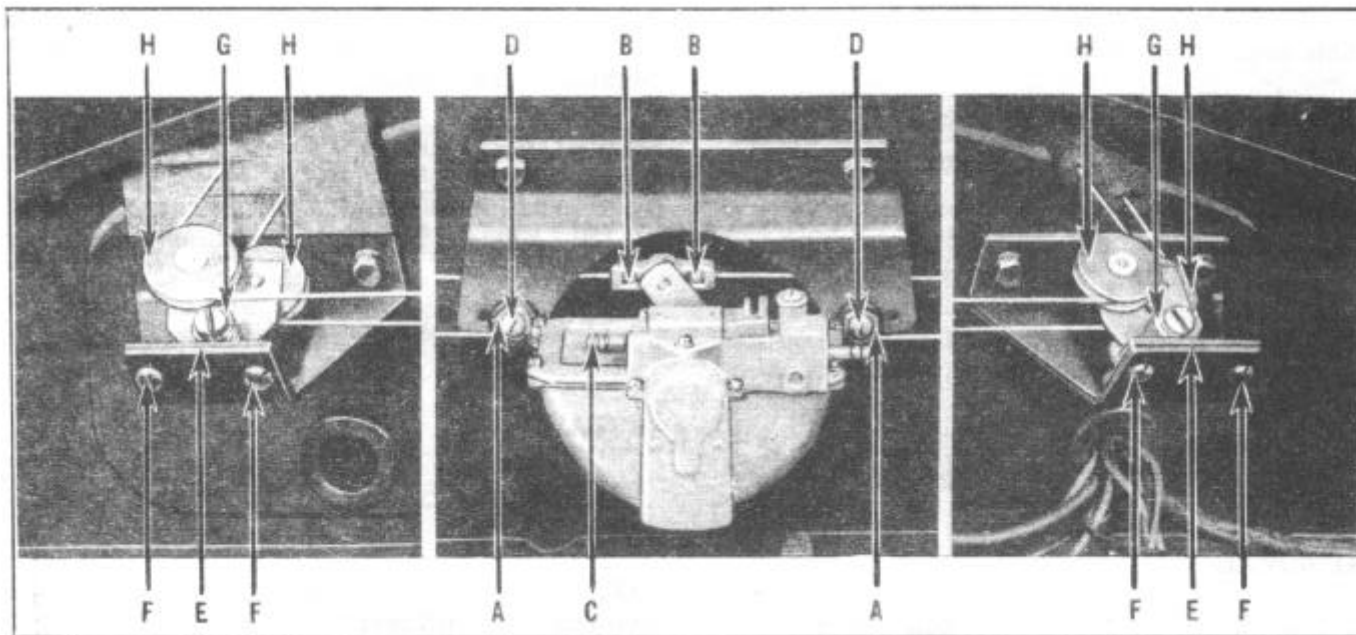

FIGURE 88
1. Disconnect pulley cables from the wiper motor at (B), Figure 88.
3. Disconnect vacuum hose from motor at (C).
4. Remove two bolts (D) attaching wiper motor to mounting bracket and remove motor.
Cable tension pulley assemblies (E), Figure 88, are mounted under the hood on the right and left side of the dash panel. These cable tension pulley assemblies are spring loaded to maintain approximately 14 pounds tension in the cables.
1. Disconnect cables from wiper motor at (B), Figure 88, and lift cables free from pulleys.
2. Remove two screws (F) attaching assembly to support bracket and remove assembly.